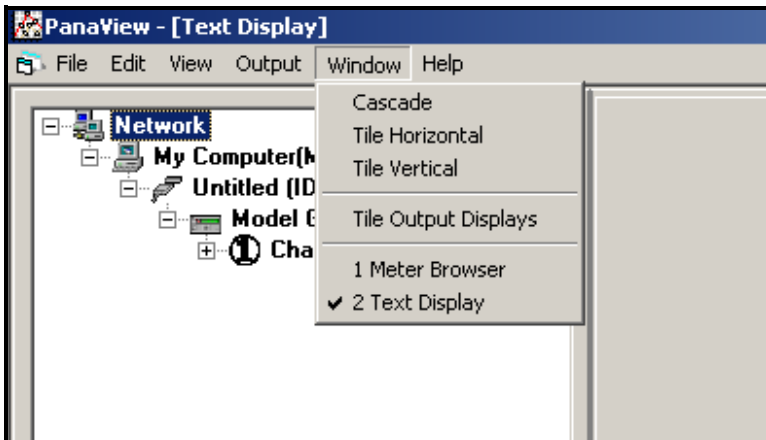

Figure 54: The Window Menu
4. To rearrange the two open windows, pull down the “Window” menu (see Figure 54).
**Note:** *After resizing or removing any of the multiple text screens, the default tiled layout may be restored by opening the “Window” menu (see Figure 54 on page 69) and clicking on the “Tile Output Displays” option.*
3. Arrange the multiple “Text Display” windows as desired via the “Window” menu (see Figure 54 on page 69).